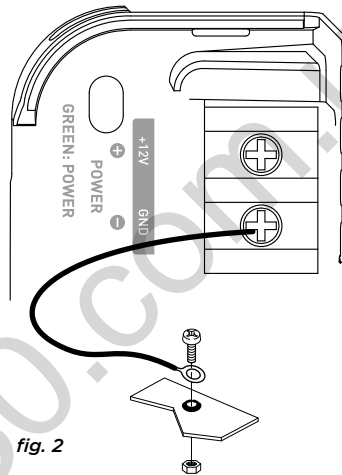

fig. 2
- 10 - Prepare the chassis ground by scraping off any trace of paint on the metal surface in order to ensure proper grounding. The grounding connections should also be as short as possible and ALWAYS connected to metal welded to the body or the chassis of the vehicle (fig. 2). The ground point which is generally chosen is the one connecting the negative terminal of the battery to the chassis of the vehicle.
3.3.2 - Get hold of the negative power cable (-). This cable should be as short as possible and ideally should not be any longer than 1 metre, to ensure a perfect connection between the amplifier and the chassis of the vehicle. The cable and wire gauge must comply with the table in section 3.1. Find a suitable grounding point, then sand it to remove any traces of paint or other coating to maximising the quality of the contact point. Drill a hole in the metal that you have previously sanded, making a hole the same diameter as the screw you are using, making sure that there are no fuel lines, cables or any other sensitive vehicle devices nearby. Crimp the black Y-type spade terminal supplied to the end of the cable. Screw the black Y-type spade terminal firmly to the GND terminal on your FDS amplifier (fig. 2). Tin the other end of the cable and then crimp or solder it onto the intended spade terminal. Insert the screw through the spade terminal, then put the screw and the nut in place and screw tight. (**fig. 2**)